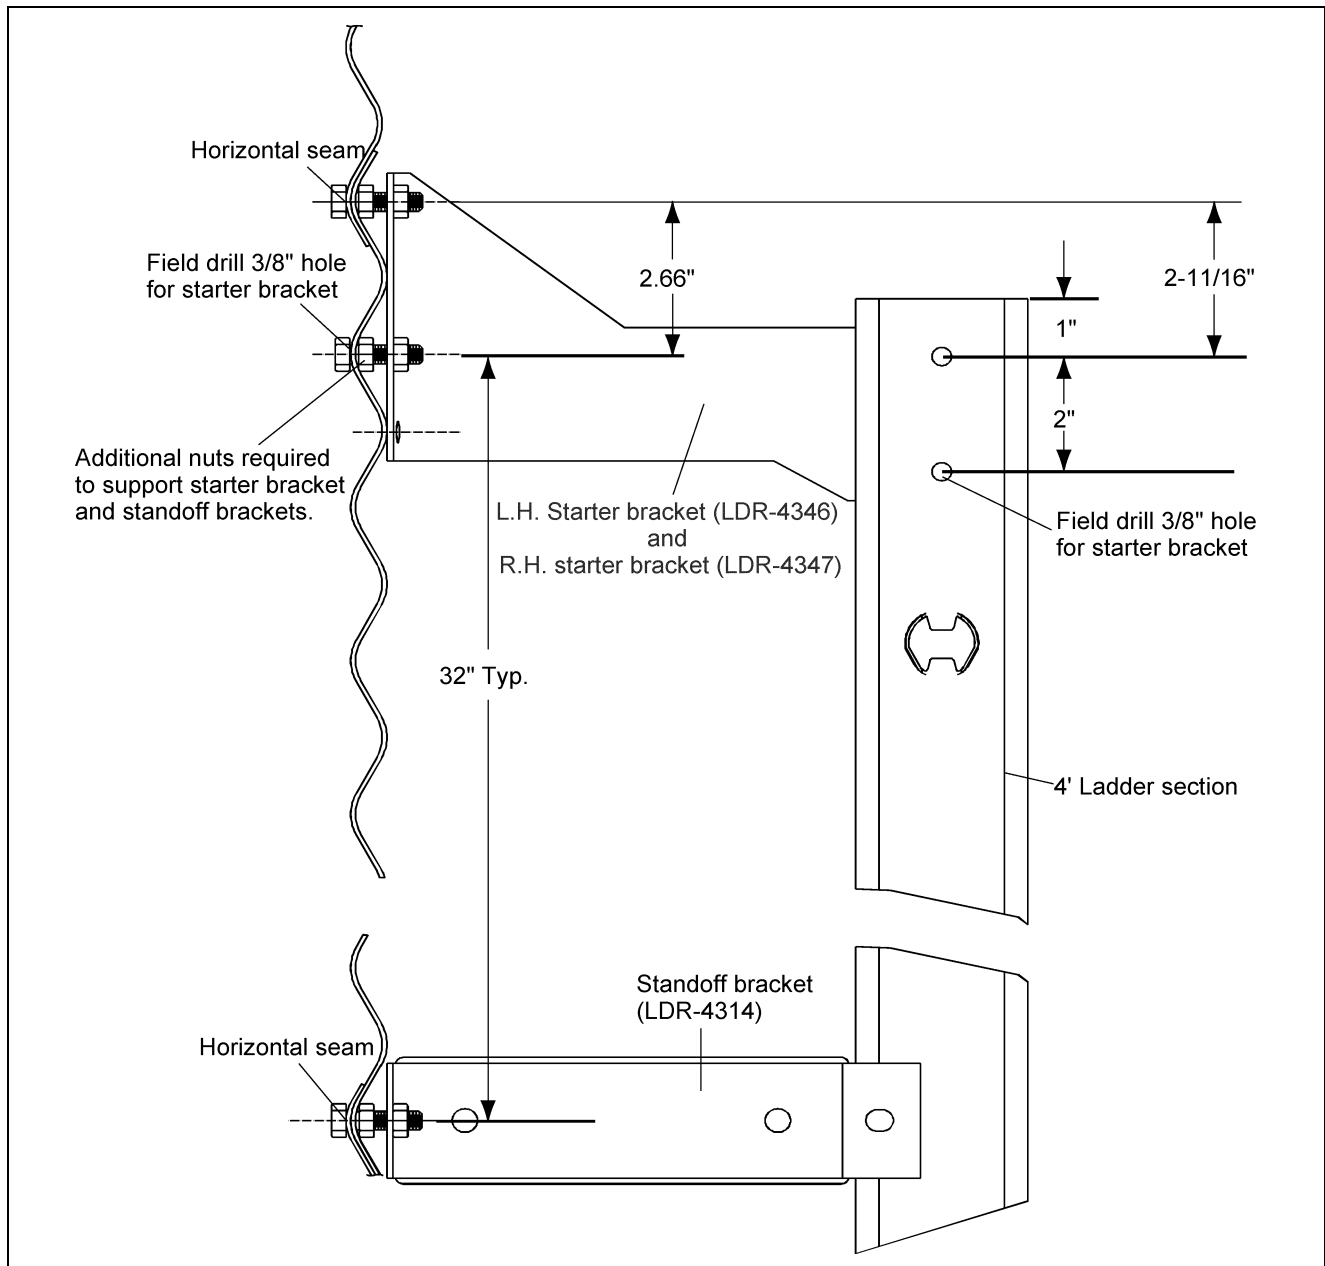

Figure 6Y
Once the two (2) 3/8" holes have been field drilled, attach the starter brackets to the sidewall as shown in Figure 6Y. Check the top ladder section to make sure the ladder rung dimples are to the top. Attach to the starter brackets using the holes located 1" from the top of the ladder. It will also be necessary to field drill a 3/8" hole in the ladder section. Drill this hole 2" below the pre-drilled hole 1" from the top of the ladder. (See Figure 6Y.) See General Detail Information on Page 12 for proper installation of additional ladder sections required. Now, standoff brackets must be installed on the ladder sections and attached to the sidewall at each horizontal seam and repeated every 32" until reaching the bottom of the tank. Use 5/16" x 3/4" bin bolts for all connections.